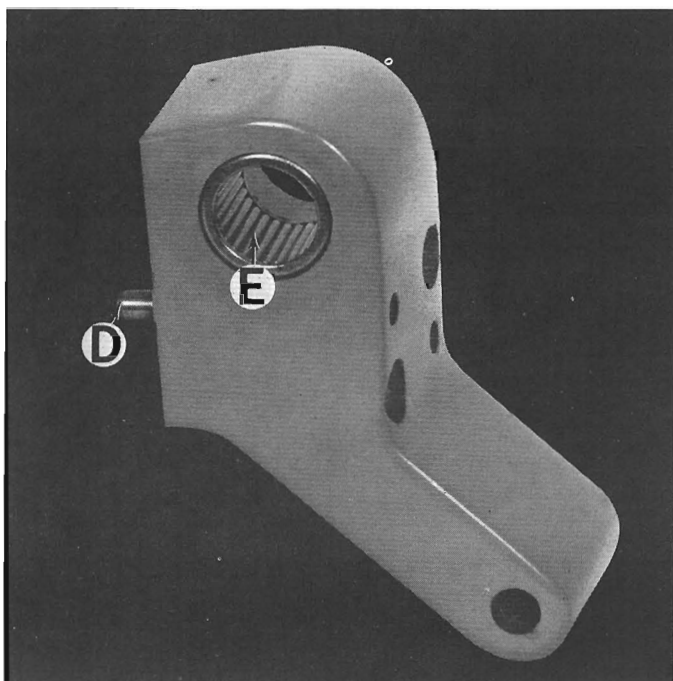

Figure 137 — Lead Screw Bracket
6. Locating dowel pins "D", Figure 137, and needle bearing "E" are press fit in lead screw bracket.